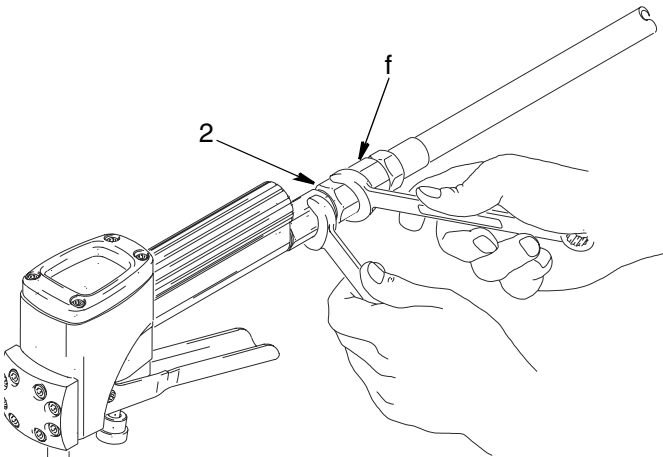

FIG. 2
7. Apply thread sealant to the male threads of the hose fitting (f), thread the hose fitting into the fitting (2) of the Accu-Shot, and tighten firmly. (FIG. 2)